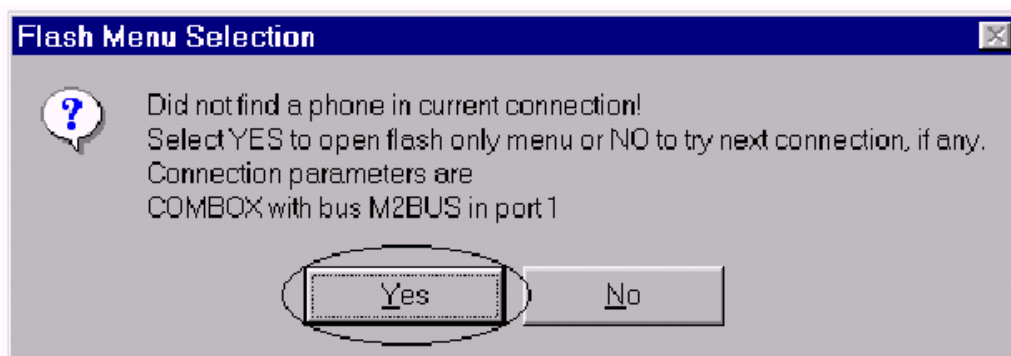

Figure 12. Flash menu selection
2. Use product→ Open→ RAE-3. (Figure 12)